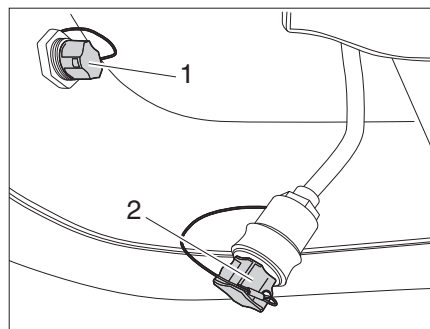

Fig. 55 Screwing on the protective caps
- Screw protective caps onto the plug and socket of the electrical connection (Fig. 55,1 and 2).